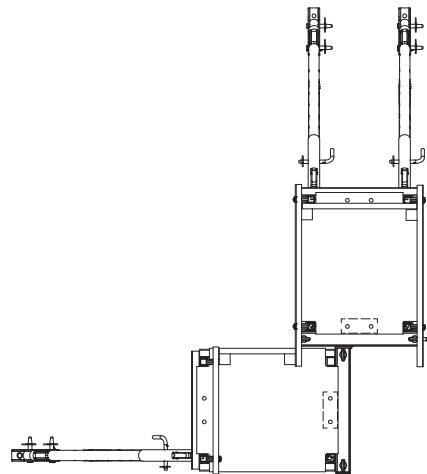

Fig. C2.02
2. Position formwork half against locating boards. (Fig. C2.02)